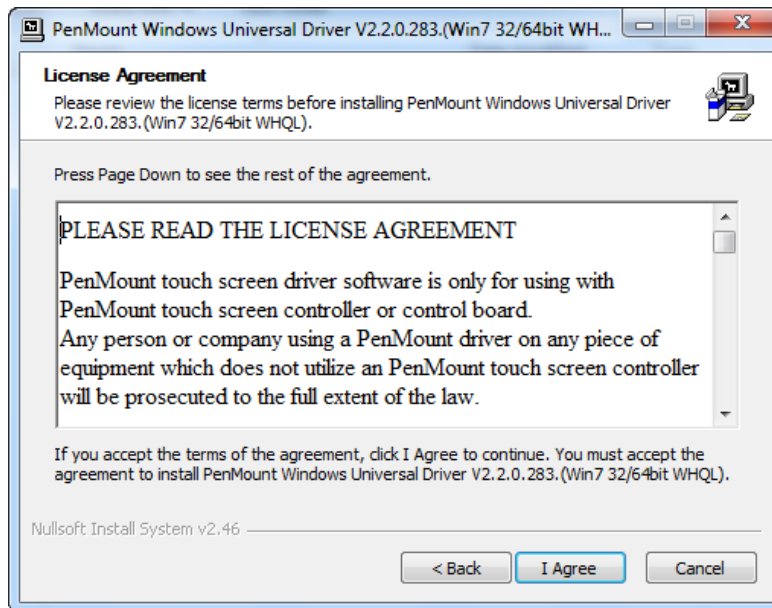

Figure 8-13: Touch Screen Driver License Agreement
Step 6: The **License Agreement** shown in **Figure 8-13** appears.